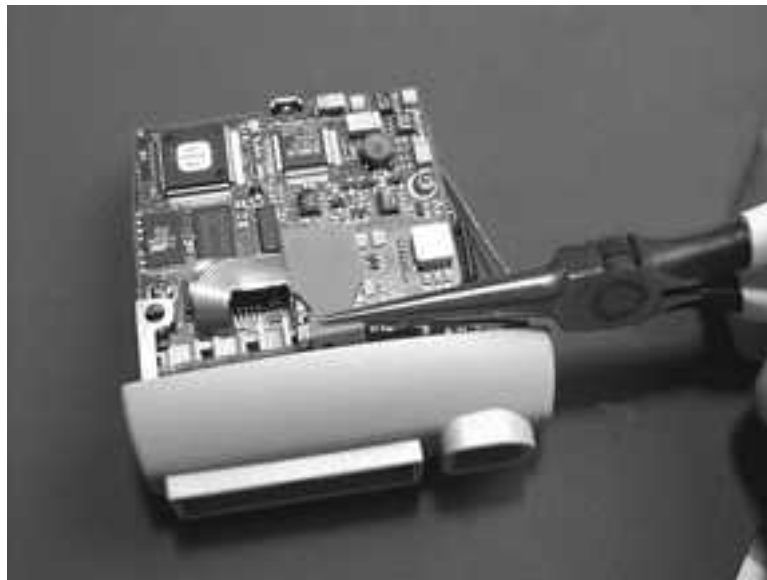
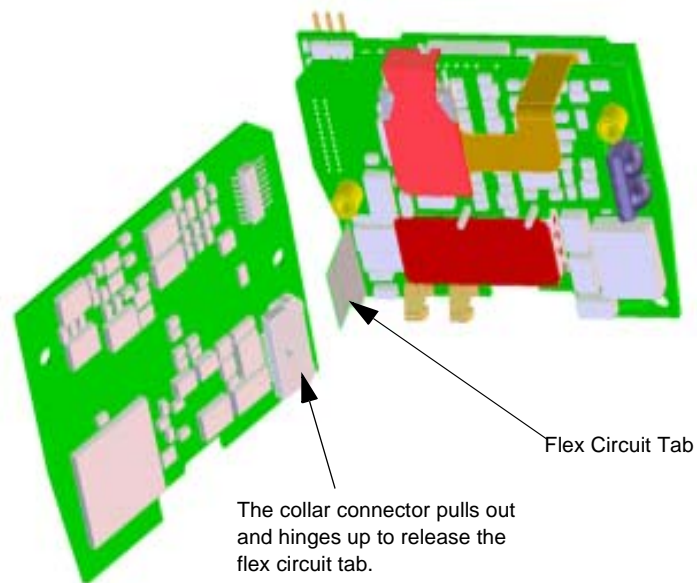

Figure 5-8 Disconnect the ECG PCB red tab connector
Figure 5-12 Releasing the Flex Circuit Tab
To remove the SpO₂ (or blank) PC Board, do the following. See Figure 5-8 - Figure 5-12.
Step 1. Disconnect the ECG PCB red tab connector from the Front End Assembly by sliding needle-nose pliers under the red tab where it clips onto the plug-in connector and gently lifting the retaining hook until it is clear of the PCB on the Front End Assembly. See Figure 5-8.
Step 6. Slide the collar out and then hinge it up to release the flex circuit tab from the SpO₂ Board. See Figure 5-12. The SpO₂ Board is then free from the transmitter.